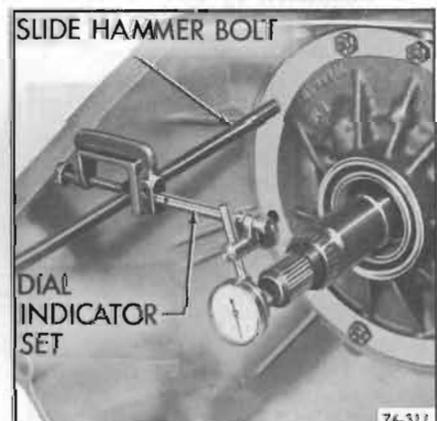

Figure 74-311
1. Attach slide hammer bolt to threaded hole in oil pump. See Figure 74-311. With flat of hand on end of input shaft move so parts are clear back. Install dial indicator set on rod and "O" dial indicator on end of input